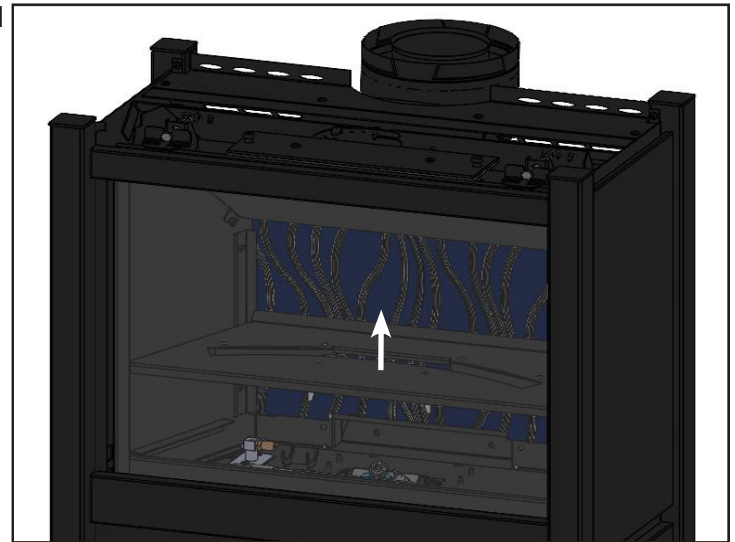

Fig. 11
- Remove the Floor Plate assembly from Firebox and set aside. (**Fig. 11**)